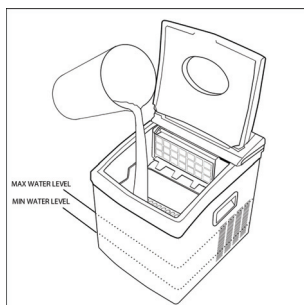

Figure 1.
1. Open the lid, remove the Ice Basket and pour water into the water reservoir. Do not exceed the maximum water level line or fill less than the minimum water level line (See Figure 1).